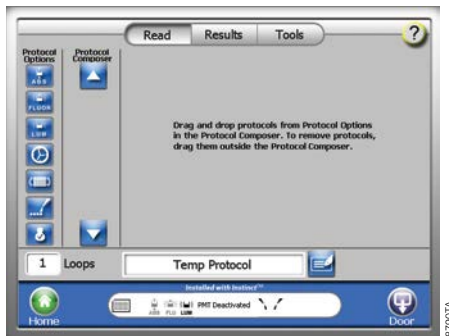

Figure 10. Dragging icons from “Protocol Options” to the “Protocol Composer”.
1. Select and drag “Protocol Options” icons, left side of screen, onto the “Protocol Composer” (Figure 10). For example, drag the Fluorescence icon into the Protocol Composer column.